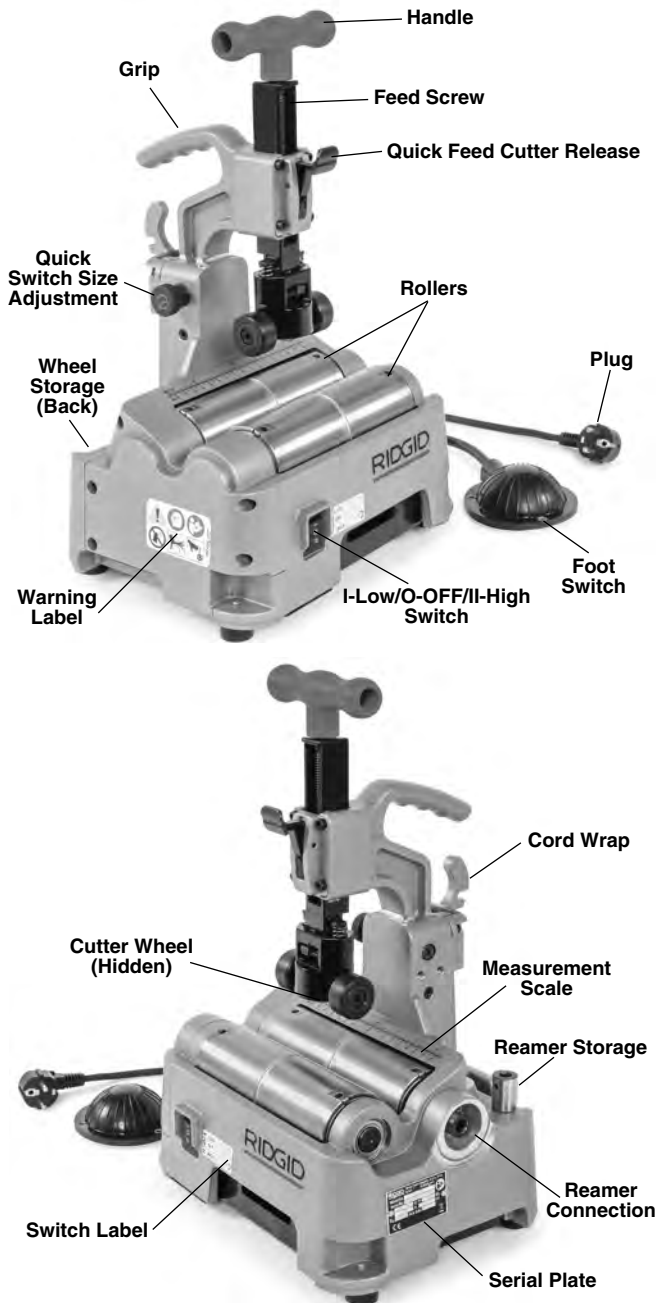

Figure 1 – RIDGID® PC116/PTC-400 Power Tubing Cutter
- Presence and readability of the warning and other labels (*See Figure 1*).